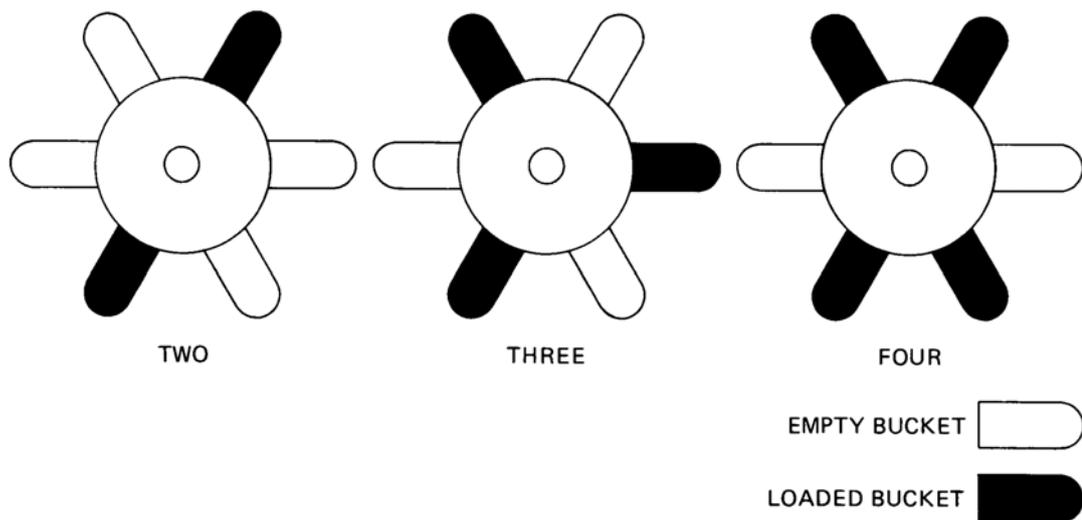

Figure 3-3. Rotor Balancing
- When using less than a full complement of six buckets, the rotor can be operated at its maximum allowable speed with two, three or four samples, provided opposing pairs of buckets are positioned as shown in Figure 3-3. Empty buckets must be placed in the remaining positions.